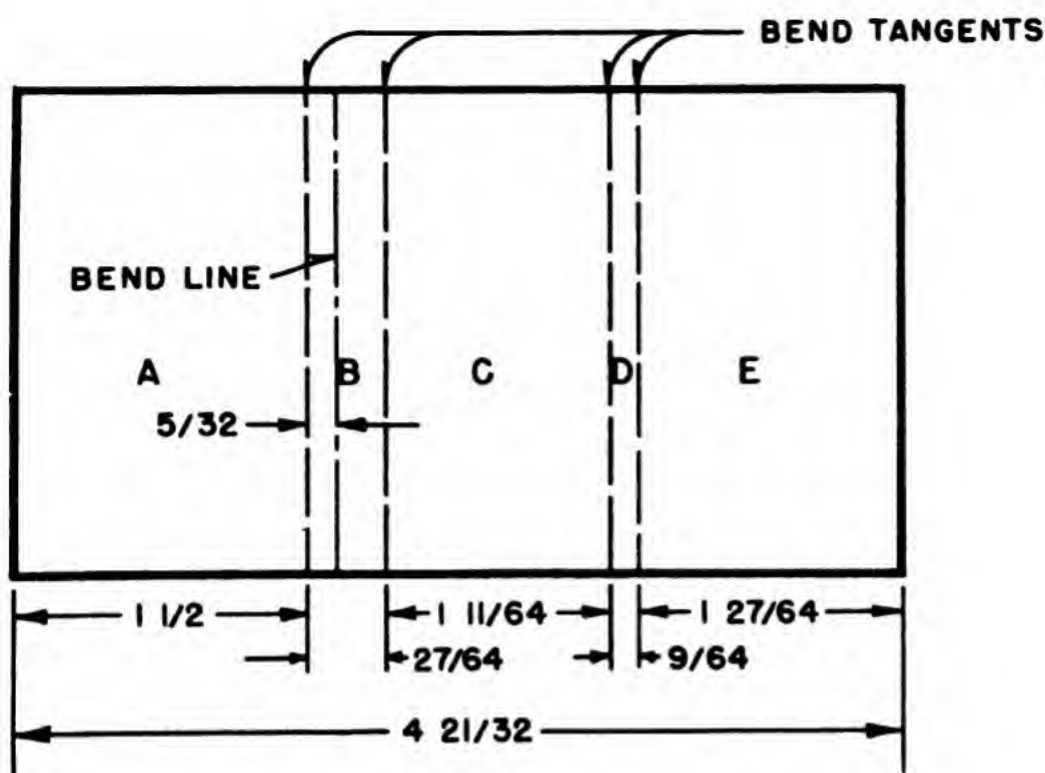

Figure 7-15.—Layout for open- and closed-angle job.
4. Make the layout as shown in figure 7-15.
In figure 7-15 the bend tangent lines indicate the portions which are bent. Before forming each bend, it must be decided which end of the material can be most conveniently